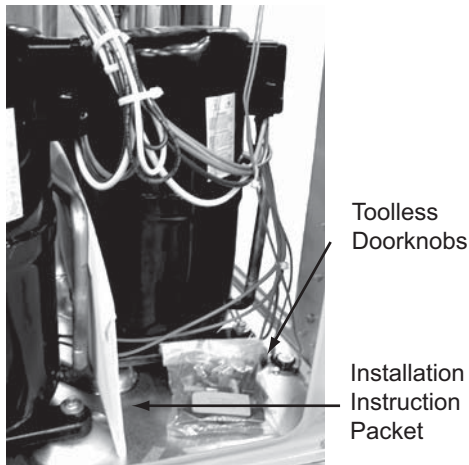

Figure 3: Compressor section
3. Remove the toolless doorknobs and instruction packet, see Figure 3.